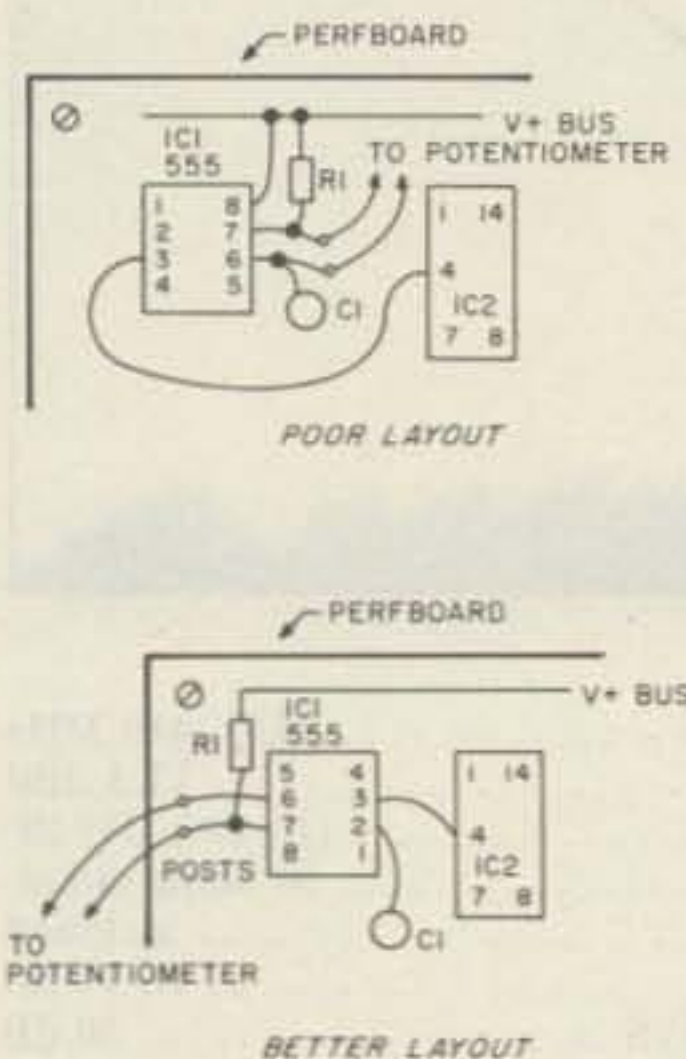

Fig. 1. Planning component layout on perfboard.
**Example 2.** Equally important is the component layout. Fig. 1 illustrates two important considerations: socket pin orientation and component placement. The IC timer, a 555, runs its timing components to pins 6 and 7, while the output emerges from pin 3. Even though we conventionally think of "upper left" as the proper place for pin one, this project calls for an "inverted" placement of the 555 socket. Now the timing components are near the board edge so that leads to the potentiometer are conveniently reached. Too, the output pin is close to the input pin of the next IC.